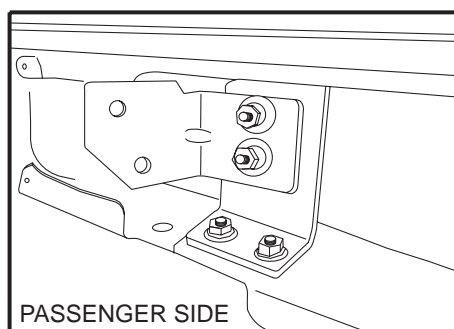

FIGURE 1
STEP 1. Position the mounting brackets as shown, aligning the mounting bracket holes with the hitch bracket holes. Make sure the bracket is not upside down or mounted on the wrong side. Refer to Figure 1.